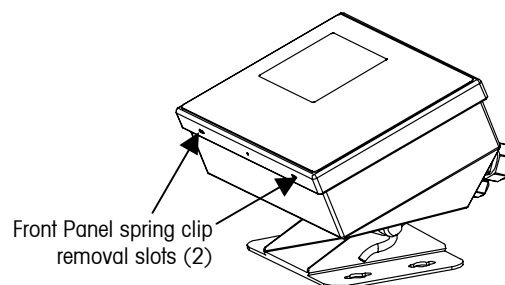

Figure 2-1: IND310drive Terminal Access
1. Insert the tip of a flat-blade screwdriver into one of the two slots located on the bottom of the front panel assembly (see Figure 2-1) and gently push in toward the enclosure. A "pop" sound is made when the cover is released.